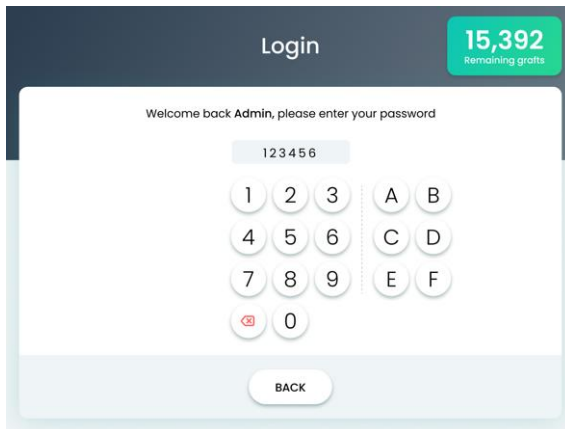

Figure 5-3. Login Password Screen
2. From the Login Account Selection screen, press the desired user account; the Login Password screen appears, as shown in Figure 5-3.
1. Verify that the Login screen appears, as shown in Figure 5-3.